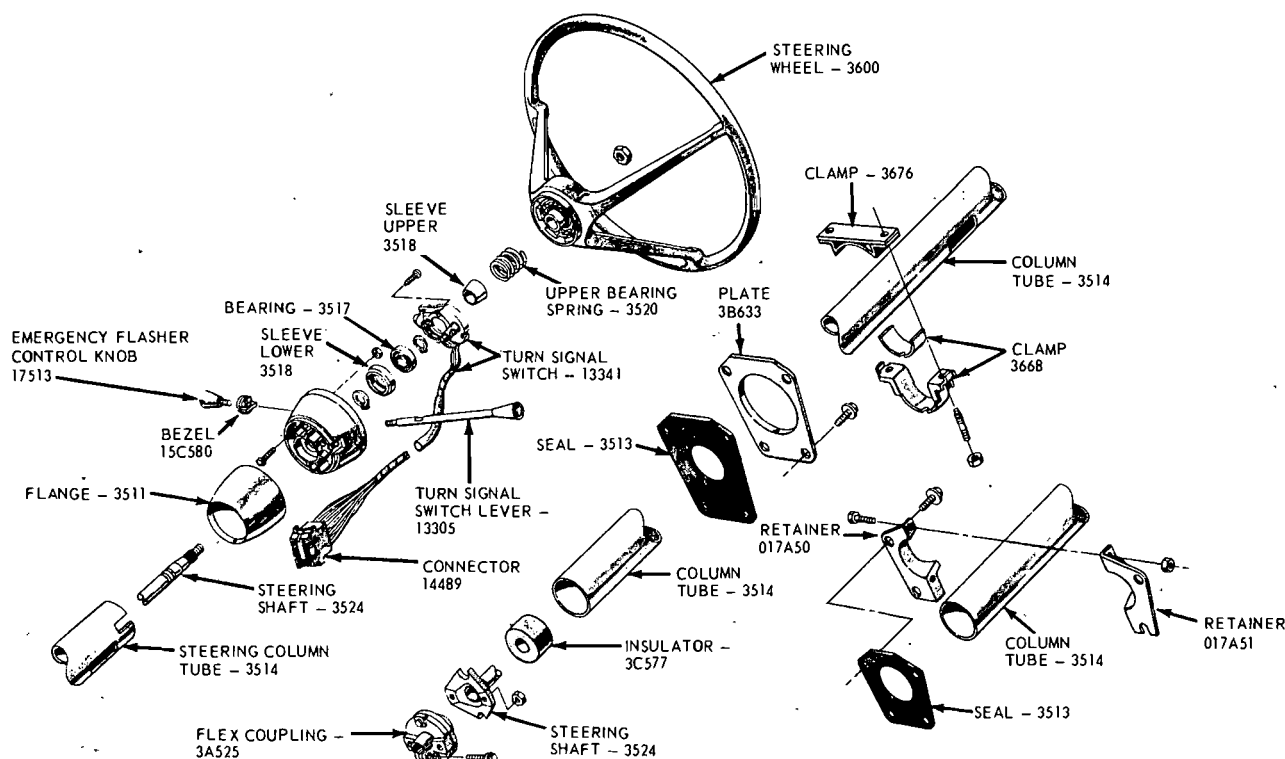

FIG. 7—Steering Column Disassembled—Typical
8. Remove 3 bearing retainer attaching screws and remove the bearing retainer and turn signal switch from the steering column (Fig. 7).
10. Loosen 2 flange bolt nuts that secure the flange to the steering column tube (Fig. 7).
2. Position the shift lever socket on the steering column and engage it with the shift tube (Fig. 7).
7. Remove 5 dash panel seal retainer attaching screws (Fig. 7) and remove the seal from the steering column opening. Then, slide the seal up the steering column.
7. Loosely install the 2 steering column bracket to support bracket attaching bolts (Fig. 7).
8. Position the seal and retainer to the steering column and dash panel and install the attaching screws (Fig. 7).
7. Remove 2 flange bolt nuts (Fig. 7) and lift the flange from the steering column.